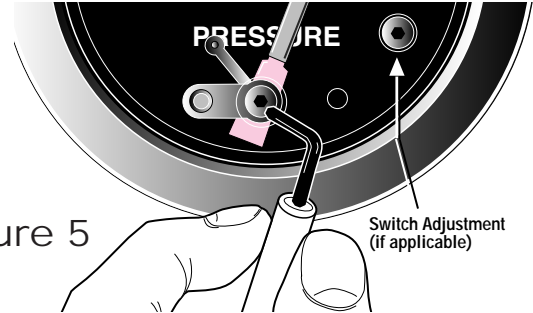

Figure 5
- All contacts are set using a 1/16 in. hex wrench (Figure 5).
- With equipment running; use a 1/16 in. hex wrench to rotate contact until it touches the pointer. **Do NOT force contact against the gage pointer.** Equipment should shut down and/or alarm should operate. *Reset the contact* (See Figure 5).